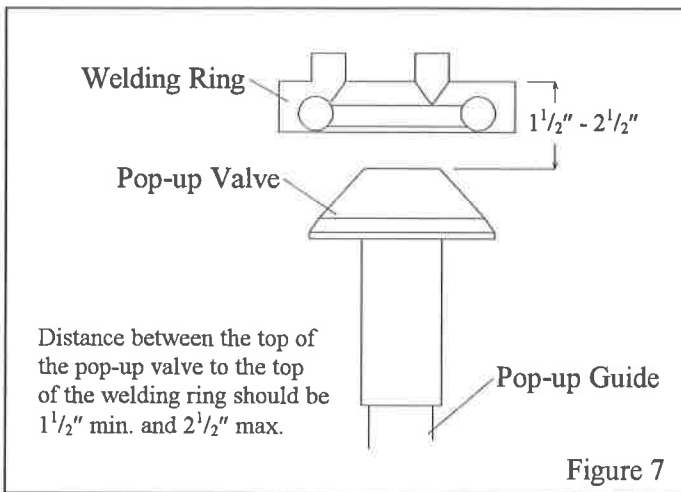

Figure 7
6.3.6 Refer to Figure 7 to check the pop-up height. If the pop-up sits too low, misalignment could occur when the pop-up comes up against the seal. If the pop-up sits